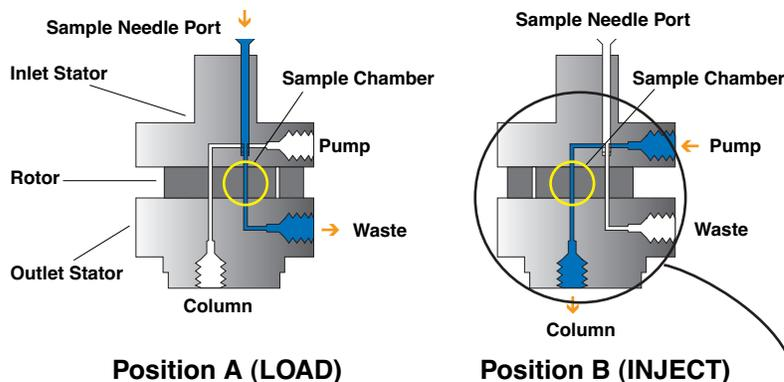
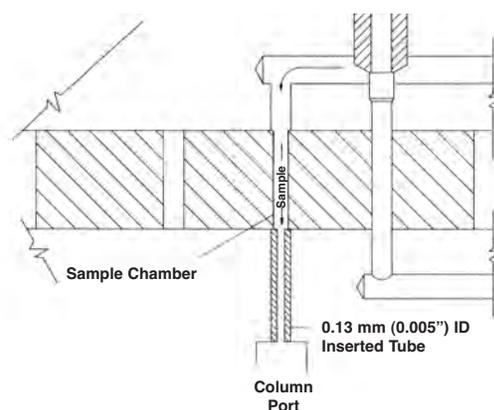
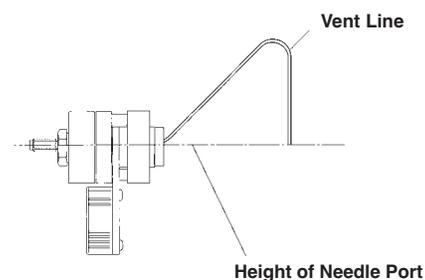

Fig. 1. Cut-away schematic view of valve flow path.
Fig. 2. Enlarged view of valve in INJECT position.
Fig. 3. Correct position of vent line.
Figure 1 is a cut-away schematic view of the valve flow path. The sample loads through the needle port in the LOAD position. Rotation of the knob 45° switches the valve from LOAD to INJECT. In INJECT, the mobile phase flows through the sample chamber located in the rotor (see Figure 2).
b) Connect the vent tube (supplied) to the Waste Port in the Outlet Stator (see Figure 1). Place the outlet of the vent tube at the same horizontal level as that of the needle port to avoid siphoning (see Figure 3).
c) Connect the pump to the Pump Port in the Inlet Stator (see Figure 1).